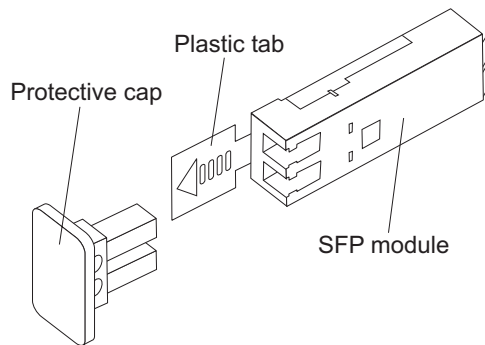

Figure 27. Installing an SFP module into the host port
4. Insert the SFP module into the host port until it clicks into place. See Figure 27.